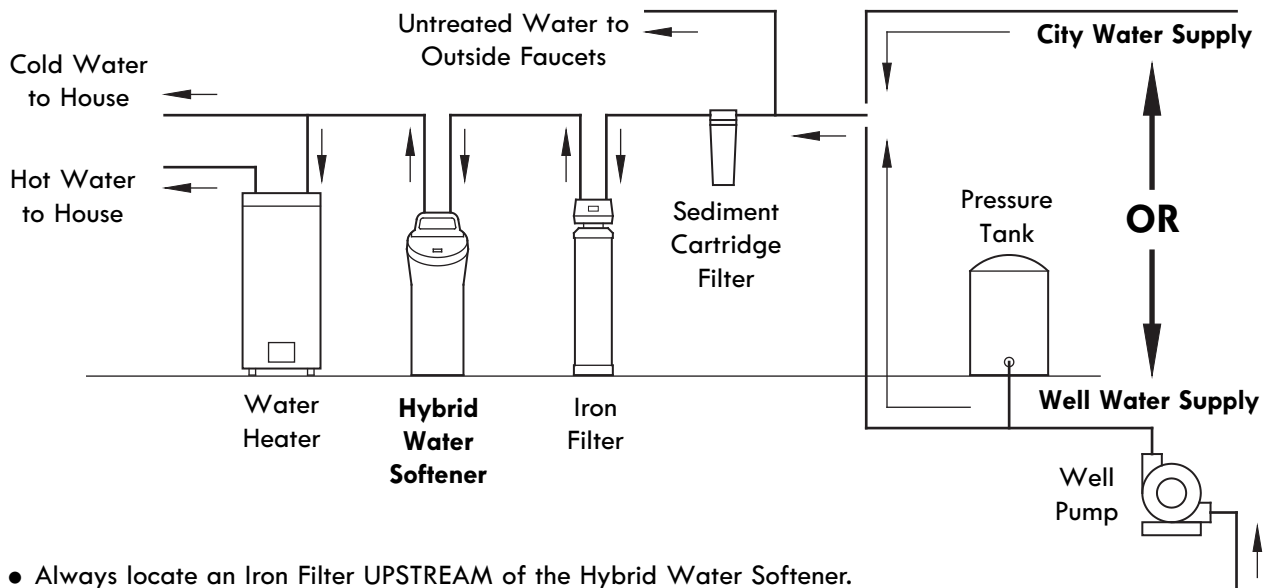

Figure 3
3. Connect to the house main water pipe **UPSTREAM OF THE WATER HEATER** (See Fig. 3). The temperature of water going through the softener must not be more than 120°F (49°C). Hot water will damage inner softener parts. To reduce the risk of hot water backup, piping between the softener and water heater should be as long as possible.